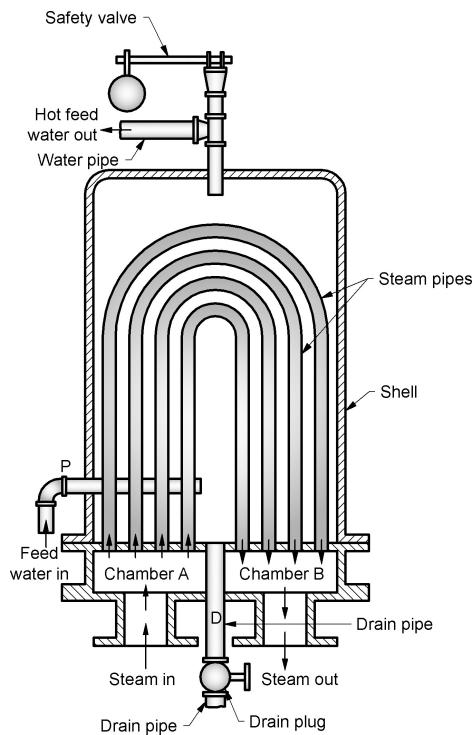

Fig. 2.13 Exhaust steam feed water heater
- (1) It consists of cylindrical shell and series of bent U-tubes which are placed inside the shell as shown in Fig. 2.13.
- (2) Exhaust steam enters into the chamber A and passes through the U-tubes and finally it is discharged from chamber B.
- (3) Feed water enters into the shell through pipe P where it gets heated due to heat transfer between tubes and water.
- (4) Hot water is supplied to the boiler through outlet pipe located at the top of the shell. Any impurities deposited inside the shell is discharged through drain pipe D.